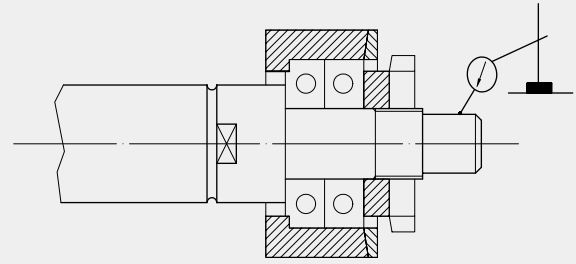

Fig A-3 The Deflection of Ballscrew Spindle
- (2) Bend of screw spindle journal: The seating surface of the bearing of the ballscrew and the thread axis of the bearing's lock nut are not perpendicular to each other or the opposite sides of the lock nut are not parallel to each other. This will cause the end of screw spindle to bend and eventually break. The amount of deflection at the end of the ballscrew spindle (Fig A-3) before and after the bearing's lock nut being tightened should not exceed 0.01 mm (0.0004 in).
- (3) Radial force or fluctuating stress: Misalignment in the ballscrew installation creates abnormal fluctuating shear stress and causes the ballscrew to fail prematurely.